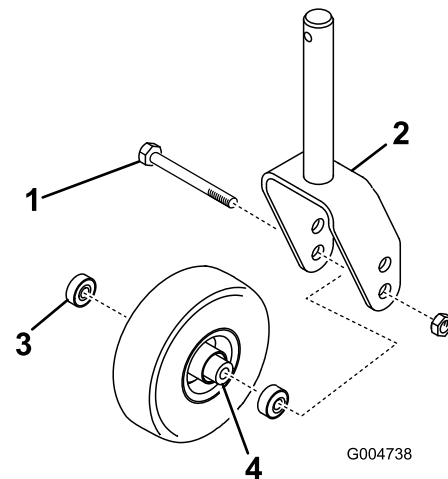

Figure 23
2. Remove the locknut from the bolt holding the castor wheel assembly between the castor fork (Figure 23). Grasp the castor wheel and slide the bolt out of the fork or pivot arm.
3. Remove the bearing from the wheel hub and allow the bearing spacer to fall out (Figure 23). Remove the bearing from the opposite side of the wheel hub.